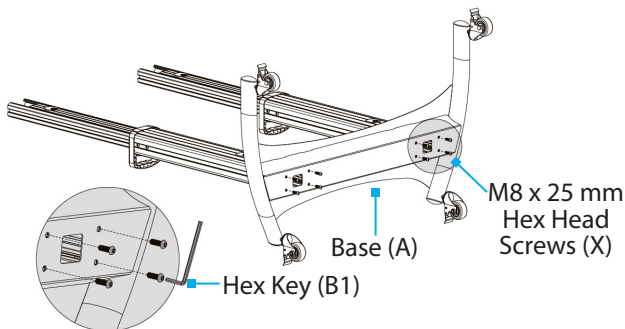

Figure 4
10. Tilt the entire **Assembly** onto its side to gain access to the bottom of the **Base (A)**. (Figure 4)